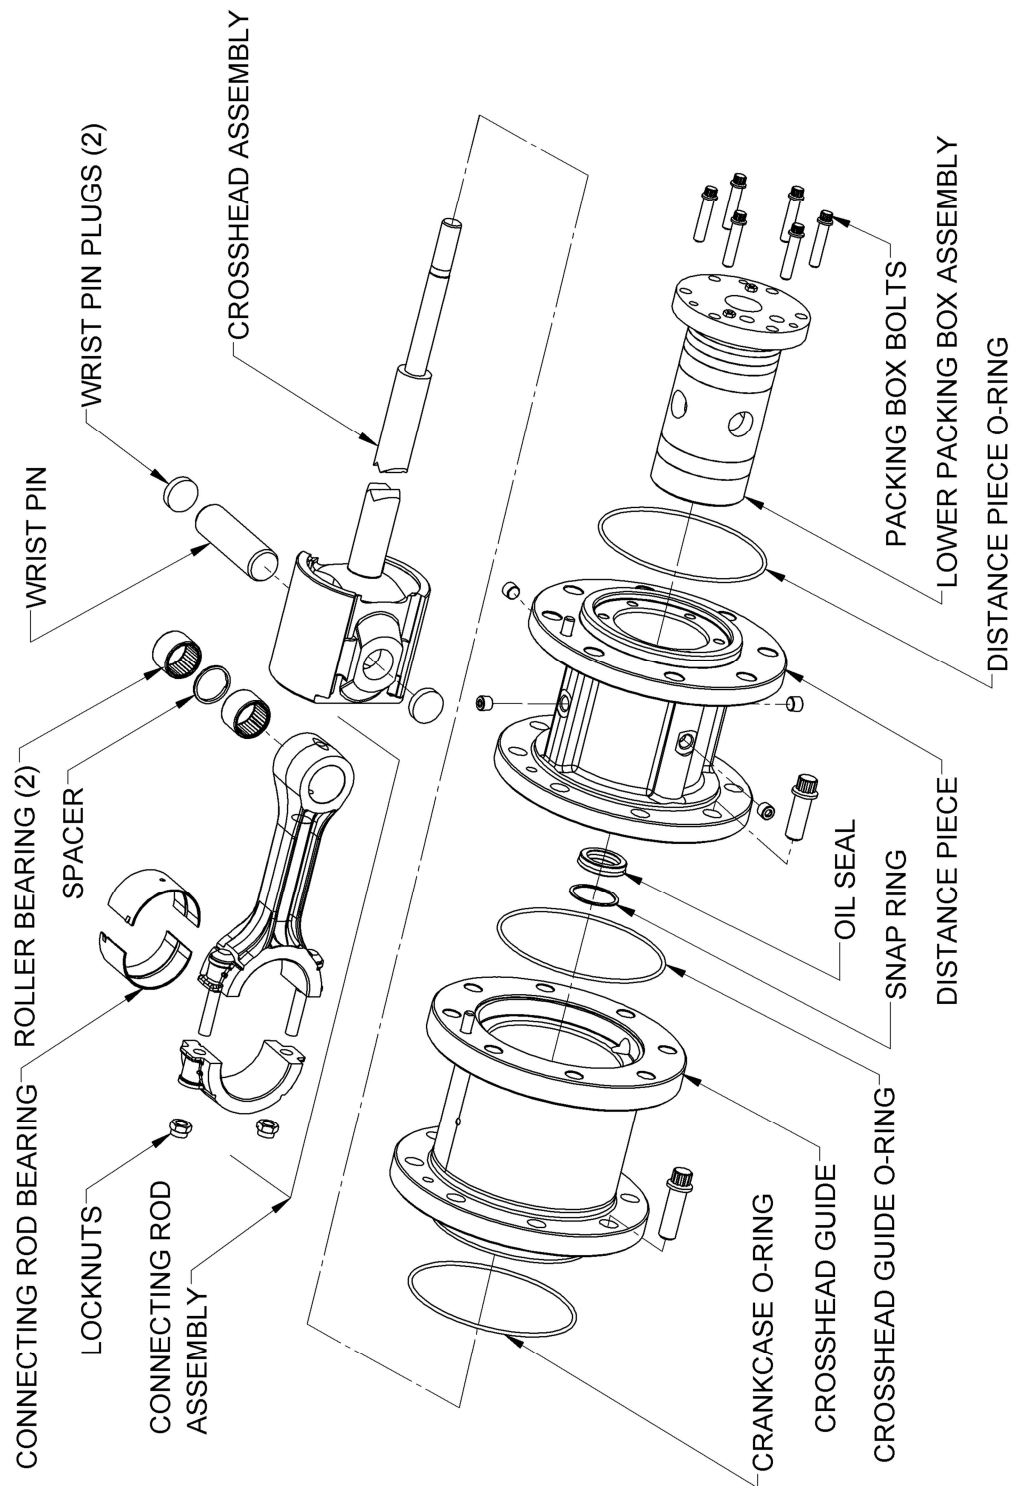

Figure 8 – Lower Compressor Assembly
16. To remove Distance Piece (Figure 8)
17. To remove Lower Packing Box Assembly (Figure 8)
18. To remove Oil Seal (Figure 8)
19. To remove Crosshead Guides (Figure 8)